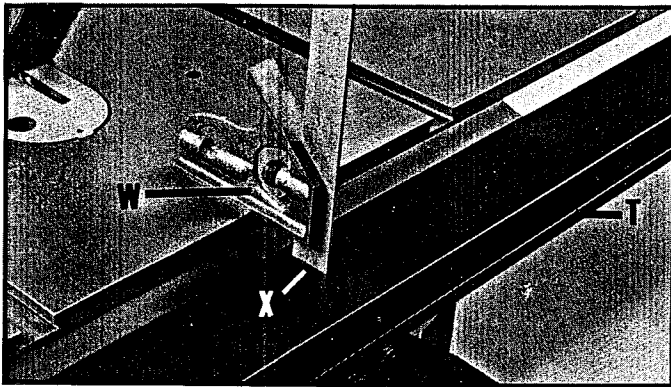

Fig. 31
14. Adjust the guide rail (T) parallel with table surface of the saw by placing a square (W) on the saw table at both the left and right front edge of the table with rule (X) of square against flat surface on top of guide rail, as shown in Figs. 31 and 32. The guide rail (T) can be moved up or down at either end. After you are certain the flat surface of the guide rail is parallel with the table surface, firmly tighten the two nuts that fasten the guide rail to the table.